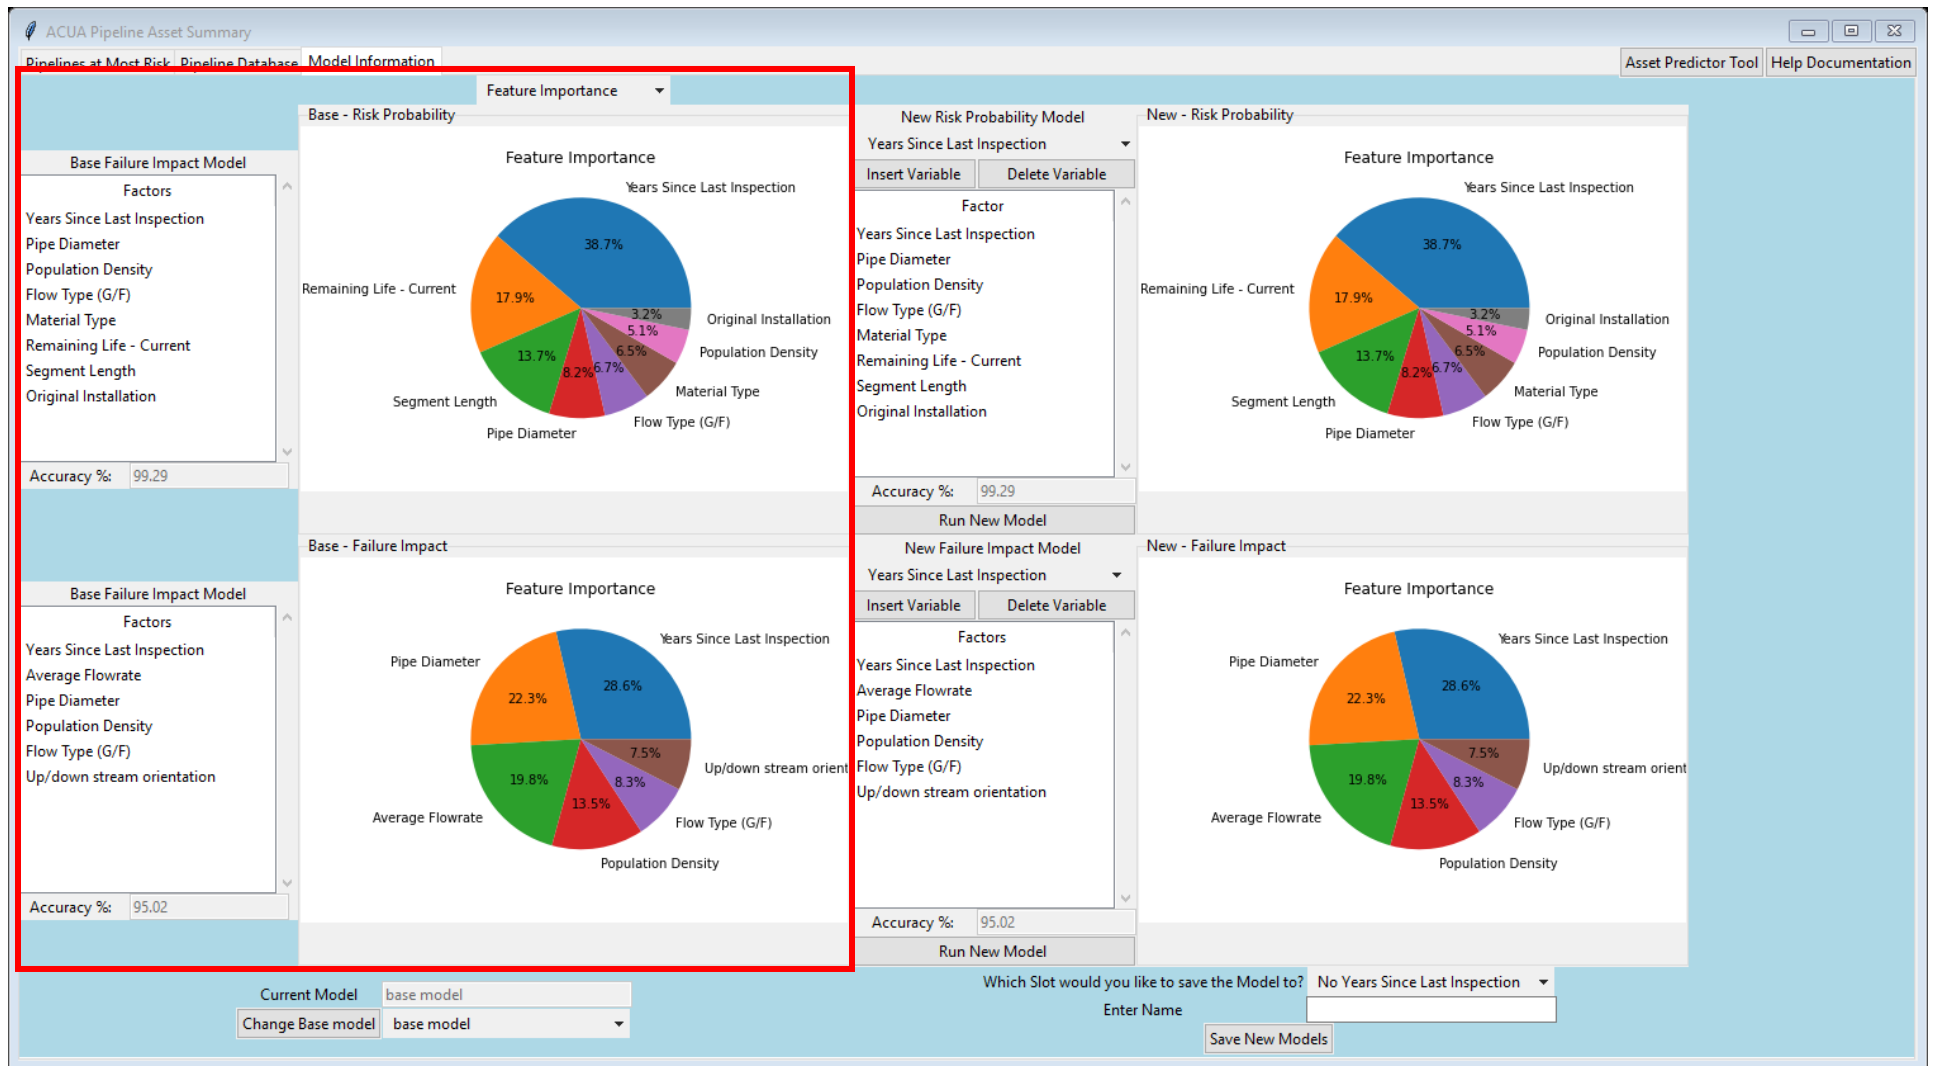

Figure 12: “Base Model” functionality
2. The red area in Figure 12 shows where the user can see all the base model information